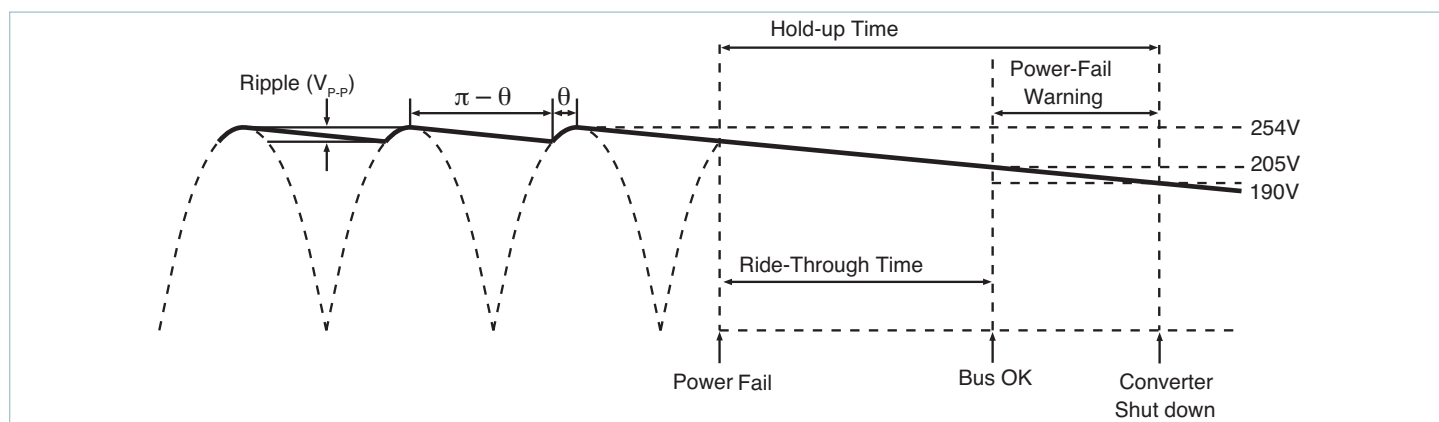

Figure 14 — Hold-up time
**Hold-Up Capacitors:** Hold-up capacitor values should be determined according to output bus voltage ripple, power fail hold-up time, and ride-through time (see Figure 14). Many applications require the power supply to maintain output regulation during a momentary power failure of specified duration, i.e., the converters must hold-up or ride-through such an event while maintaining undisturbed output voltage regulation. Similarly, many of these same systems require notification of an impending power failure in order to allow time to perform an orderly shut down.
In this case, V1 and V2 are the instantaneous values of bus voltage at the peaks and valleys (see Figure 14) of the ripple, respectively. The capacitors must hold up the bus voltage for the time interval ( $\Delta t$ ) between peaks of the rectified line as given by: